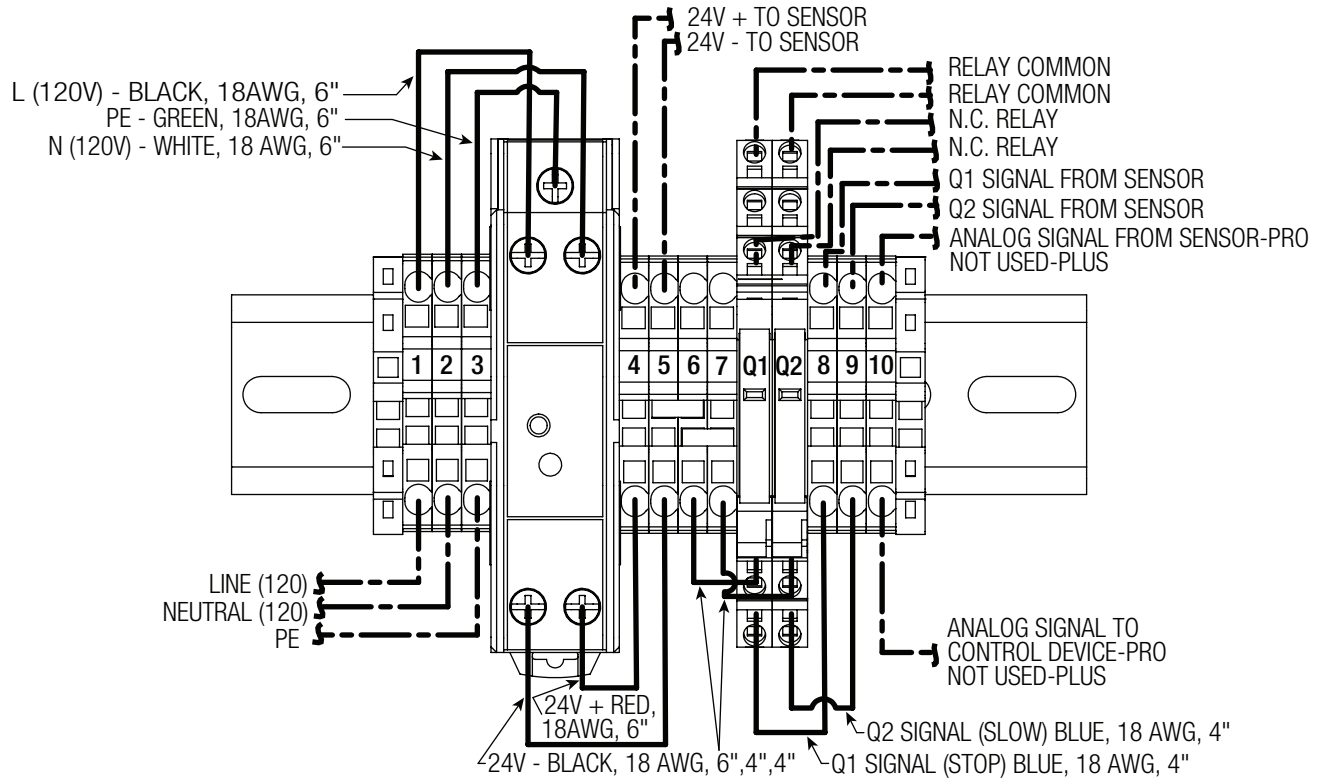

Figure 4-5
4.4.1 Included below is the controller wiring diagram for reference if experiencing issues. See **Figure 4-5**.